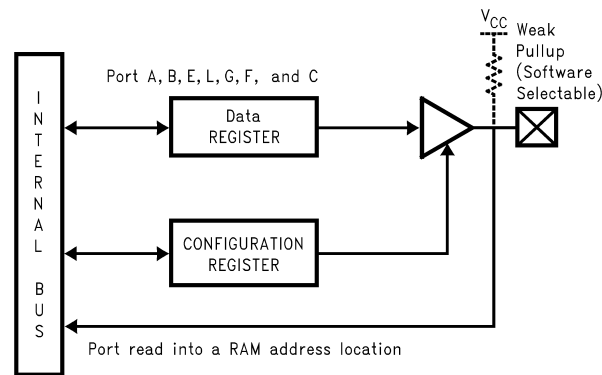

Figure 4-2. I/O Port Configurations
The device contains up to six bidirectional 8-bit I/O ports (A, B, C, E, G and L) and one 4-bit I/O port (F), where each individual bit may be independently configured as an input (Schmitt trigger inputs on ports L and G), output or TRI-STATE under program control. Three data memory address locations are allocated for each of these I/O ports. Each I/O port has three associated 8-bit memory mapped registers, the CONFIGURATION register, the output DATA register and the Pin input register. (See the memory map for the various addresses associated with the I/O ports.) Figure 4-2 shows the I/O port configurations. The DATA and CONFIGURATION registers allow for each port bit to be individually configured under software control as shown below: